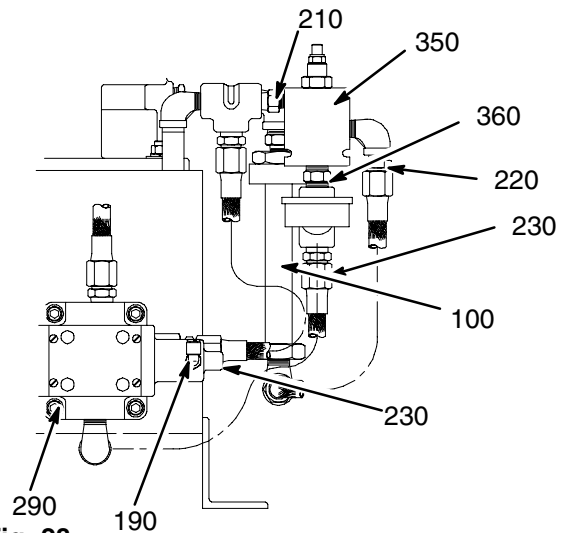

Fig. 28
To replace the hydraulic air valve (Fig. 28):
To replace the hydraulic fluid regulator [(350) in Fig. 28]: